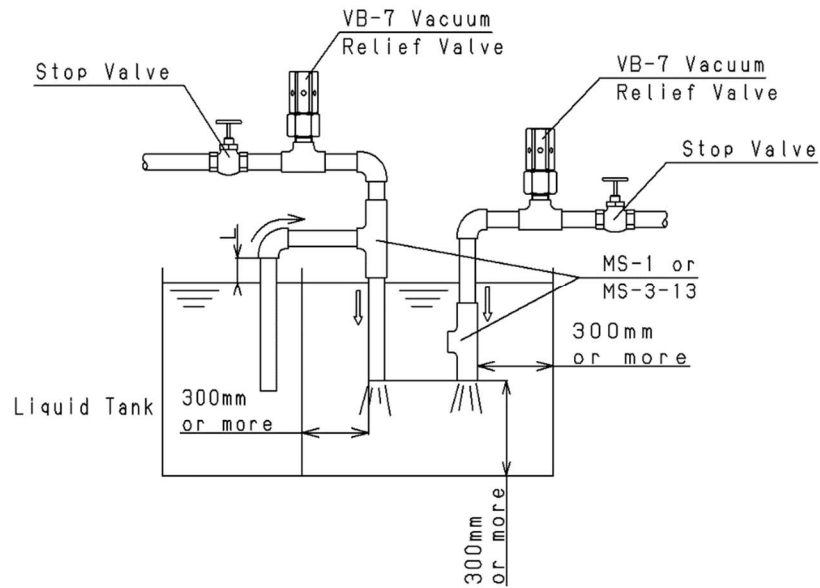

Fig.3
When using the method shown in Fig. 3, make the L dimension as short as possible.
- (1) Do not touch the product by bare hands
- (2) Submerge the product (In the case of Fig. 3, the tip of the pipe) in the water (liquid) in the tank.